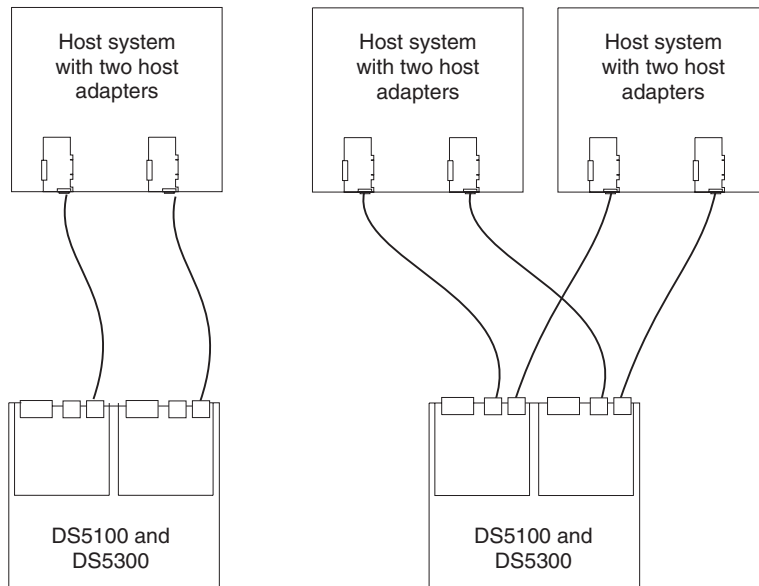
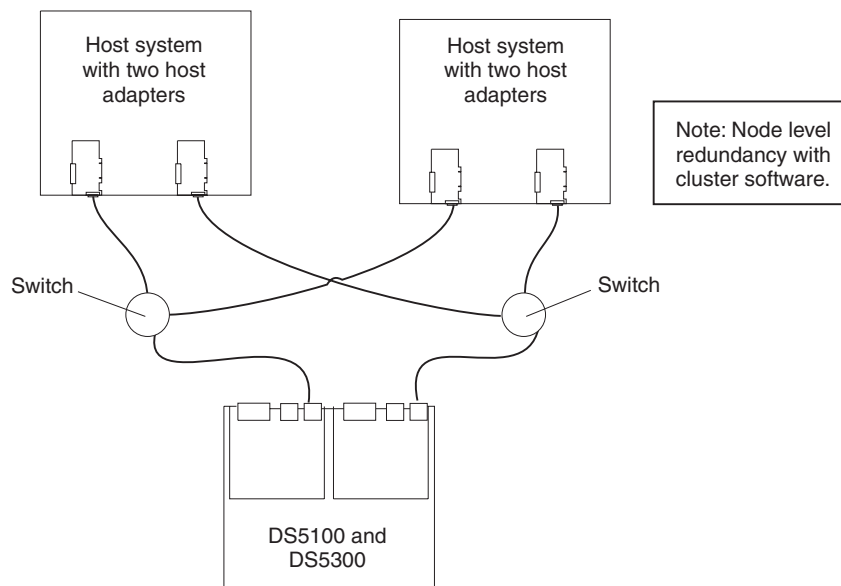

Figure 77. Examples of redundant host direct attached fibre channel configurations
Figure 78. Example of redundant SAN fabric fibre channel configuration
- Redundant host and drive fibre channel loop configurations, as shown in Figure 77 on page 116
Figure 77 on page 116 is an example of one host system to one, and two host systems without switches to one. Figure 78 on page 116 is an example of a redundant SAN fabric channel configuration.